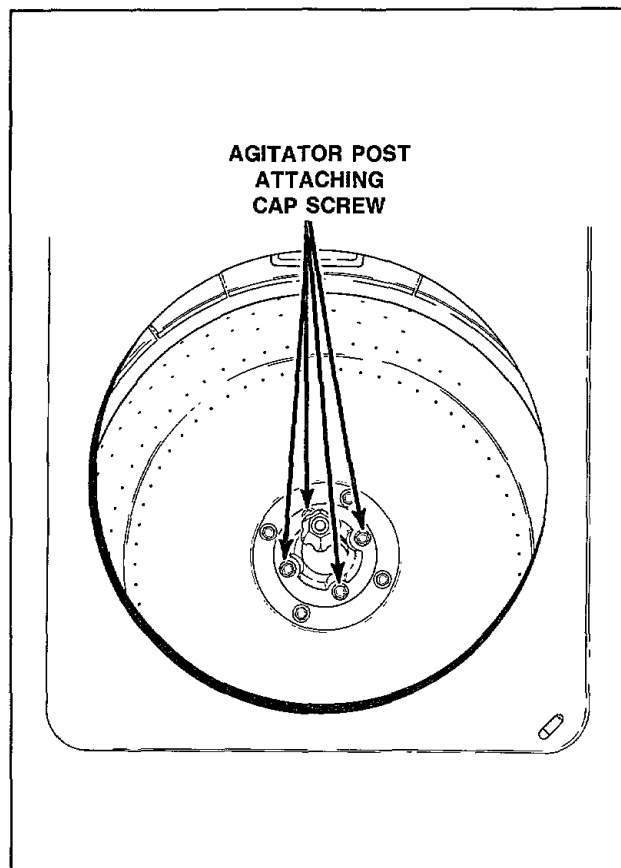

Figure 17
- b. Remove four cap screws holding agitator post assembly to washtub hub, *Figure 17*, then lift assembly out of washtub.